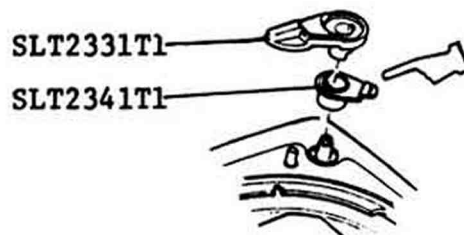

Fig. 9
- 2) Attach the SLT2341T1 Activating lever in its cocked position as shown in Fig. 9.